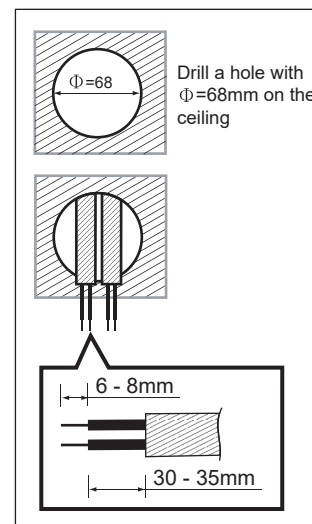

FIG.3
1. To install the detector, please drill a hole with diameter of 68mm on ceiling board and keep the power cable outside. Please strip off 6 - 8mm of cable sheathing for wiring (See FIG.3).